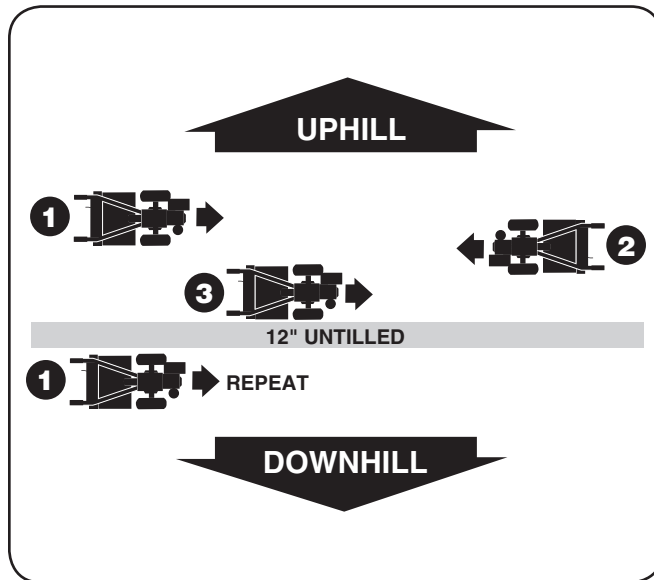

Figure 5-9
1. To create a terrace, start at the top of the slope and work down. Go back and forth across the first row as shown in Figure 5-9.